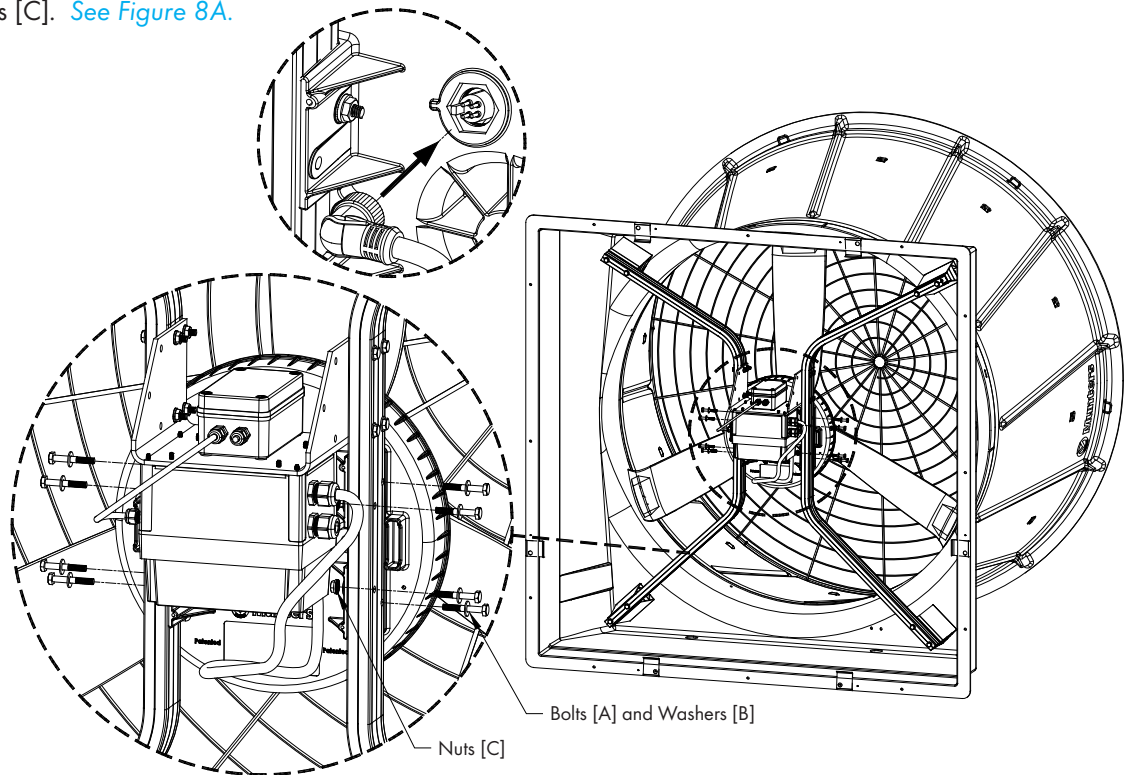

Figure 8A
For fan with an Original Controller, reconnect cable with Quick Connector from Controller to Motor. Carefully lift motor into place with the mounting flanges between the struts and secure in place using (8) Bolts [A], Washers [B] and Nuts [C]. See Figure 8A.